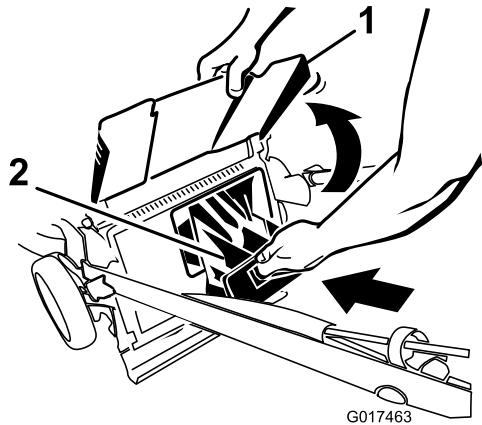
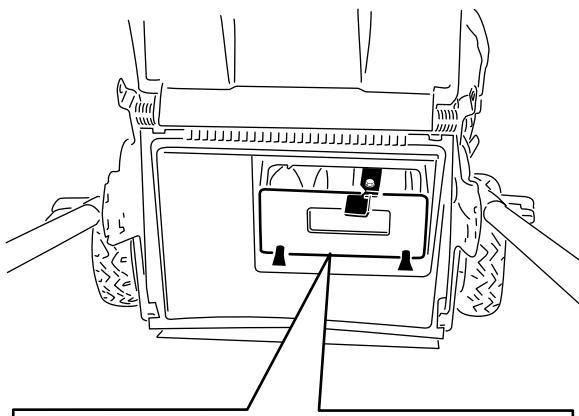

Figure 16
Figure 17
**Important:** Ensure that the rear discharge plug is locked in place. To lock the plug: Raise the discharge deflector (Figure 16), firmly push the plug in until it snaps into place behind the tabs, and rotate the lever on the plug to the left (Figure 17).
**Note:** To unlock the plug, rotate the lever on the plug to the right (Figure 17).